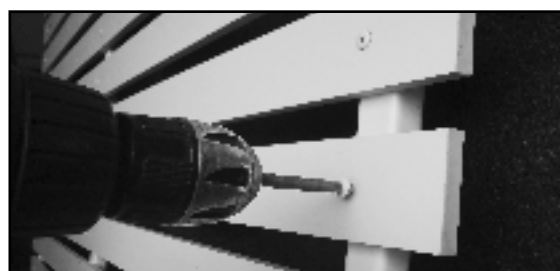
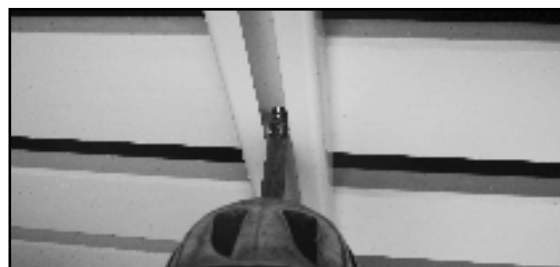

Fig. 1
Fig. 2
2. Screw the slats to the rails through pre-drilled holes using the screws supplied with the slats. Screw through thin slats as shown in Fig. 1; screw into pilot holes on the back of thick slats as shown in Fig. 2. We suggest not attaching the top and bottom 3 slats at this stage, which will give you additional working space to make installation easier. CAUTION: Avoid stripping by not over-tightening the screws.